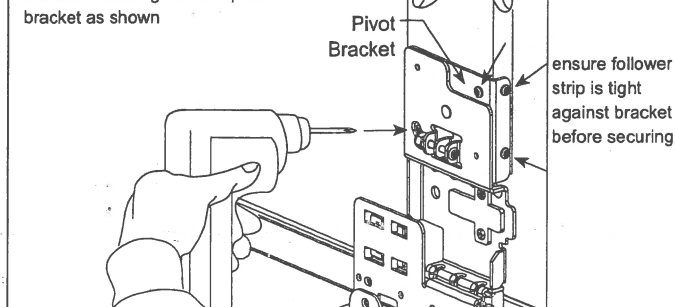

Fig 7
1. Bore hinge cup holes in door as shown in Figure 7. Install hinges with hinge arms perpendicular to the edge of the door.
2. With slide in the extended (forward) position, clip hinges onto hinge base plates. See Figure 7.